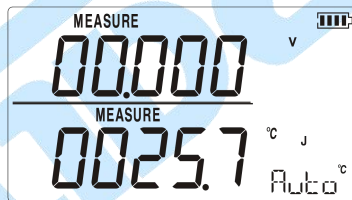

Figure 5.1-2
3. Press for the TC display. If desired, continue pressing this key to select the desired thermocouple type as shown in Figure 5.1-2.